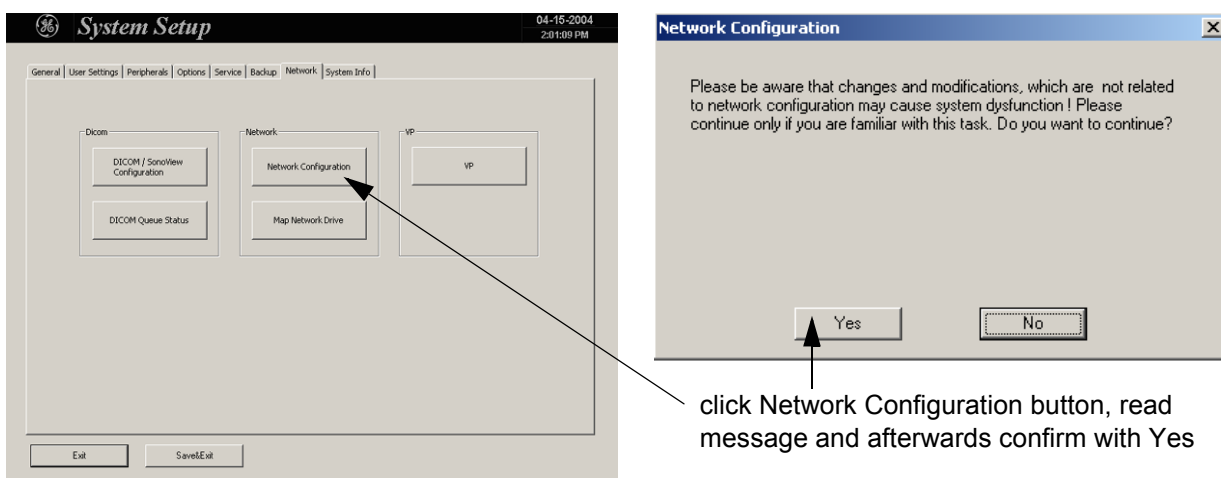

Figure 3-56 Network Configuration
- 1.) Select the MAP NETWORK DRIVE button (in the System Setup - **Network** page, see: Figure 3-56) to open a dialog where the system can be connected to a shared network drive of another server.